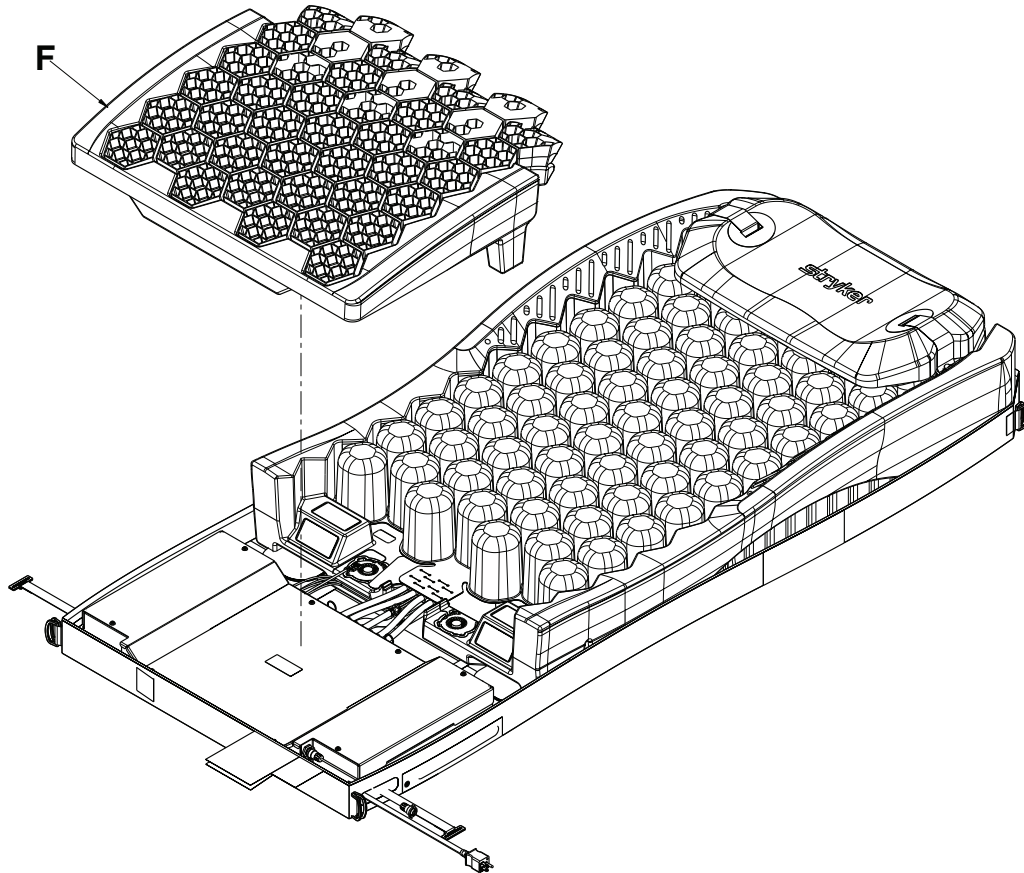

Figure 25 – Gel crib
3. Remove the foot section gel crib (F) (Figure 25). Save the gel crib.